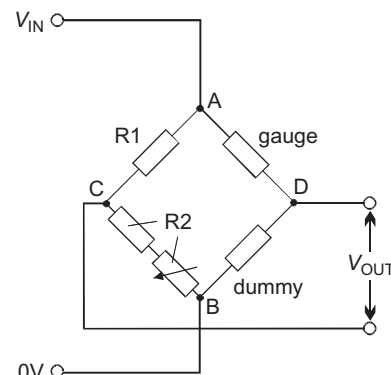

FIGURE 38.17
- 6 The circuit in Figure 38.17 is a: